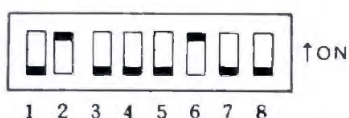

Fig. 5-2-12
- Set the DIP switches on the FM-7/New 7 or FM-77's interface card (MB22406) as shown in Fig. 5-2-12.